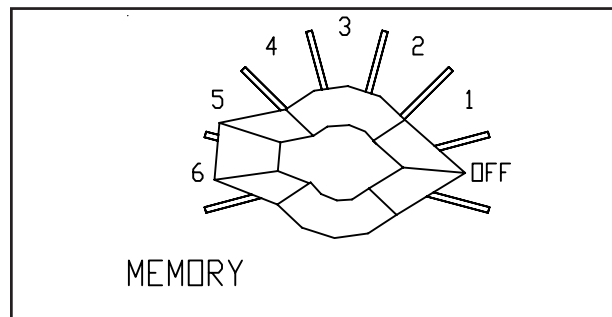

FIGURE 3-15. MEMORY SELECT SWITCH
The Memory Select switch (Figure 3-15) controls the Memory Preset. This function of the Controller is available for the operator's convenience but is not necessary for the operation of the unit. The Controller can preset up to six (6) frequently used application rates and associated flow calibrations.